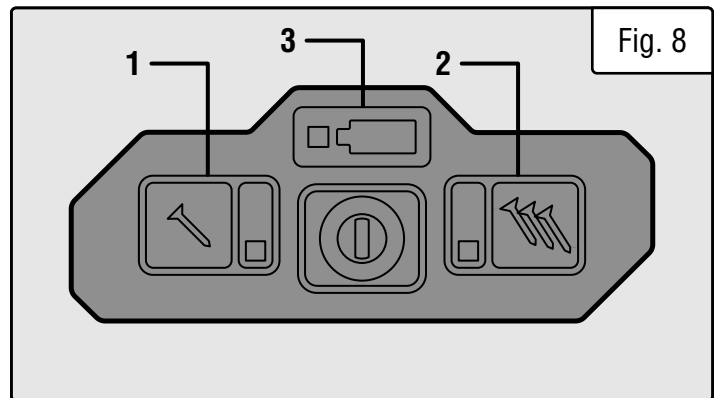

Fig. 8
1. To set the nailer to the single sequential mode, press the single sequential mode button (Fig. 8 - 1). The corresponding indicator light will light up when the mode has been activated.
2. To set the nailer to the bump fire mode, press the bump fire mode button (Fig. 8 - 2). The corresponding indicator light will light up when the mode has been activated.
1. The low battery charge indicator (Fig. 8 - 3) will flash when the battery charge gets too low. Charge the battery to continue operation.